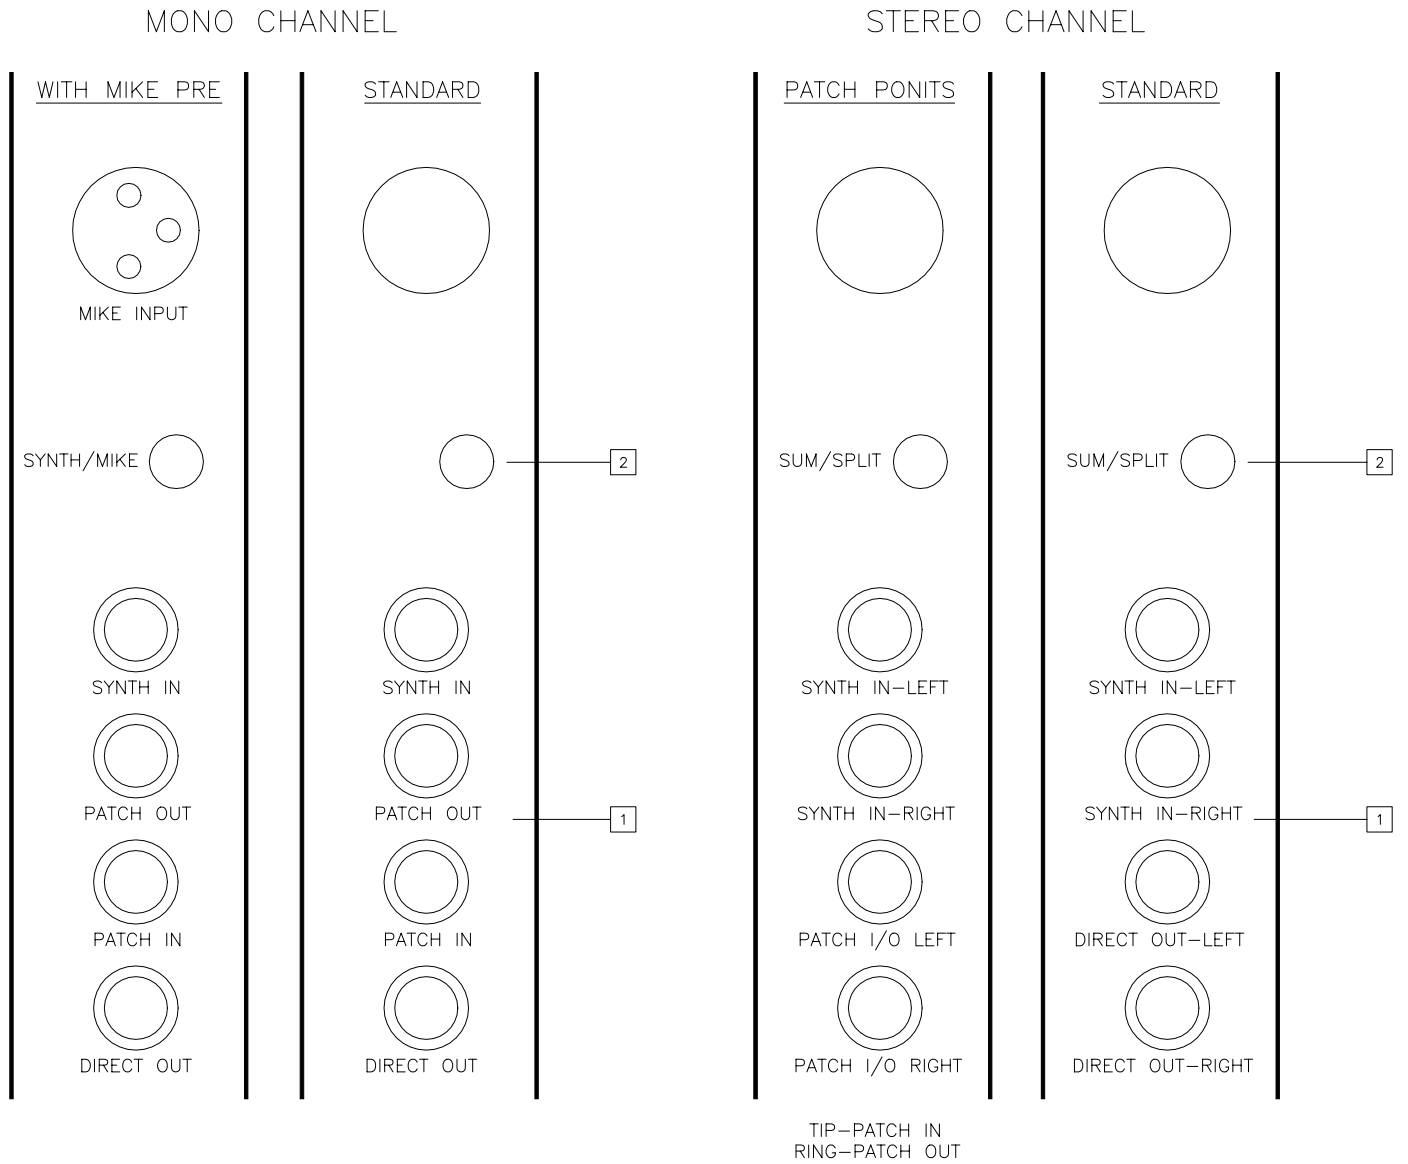

Figure 7. Input Channel Connectors and Switches
Refer to Figure 7 for location of items 1 and 2.